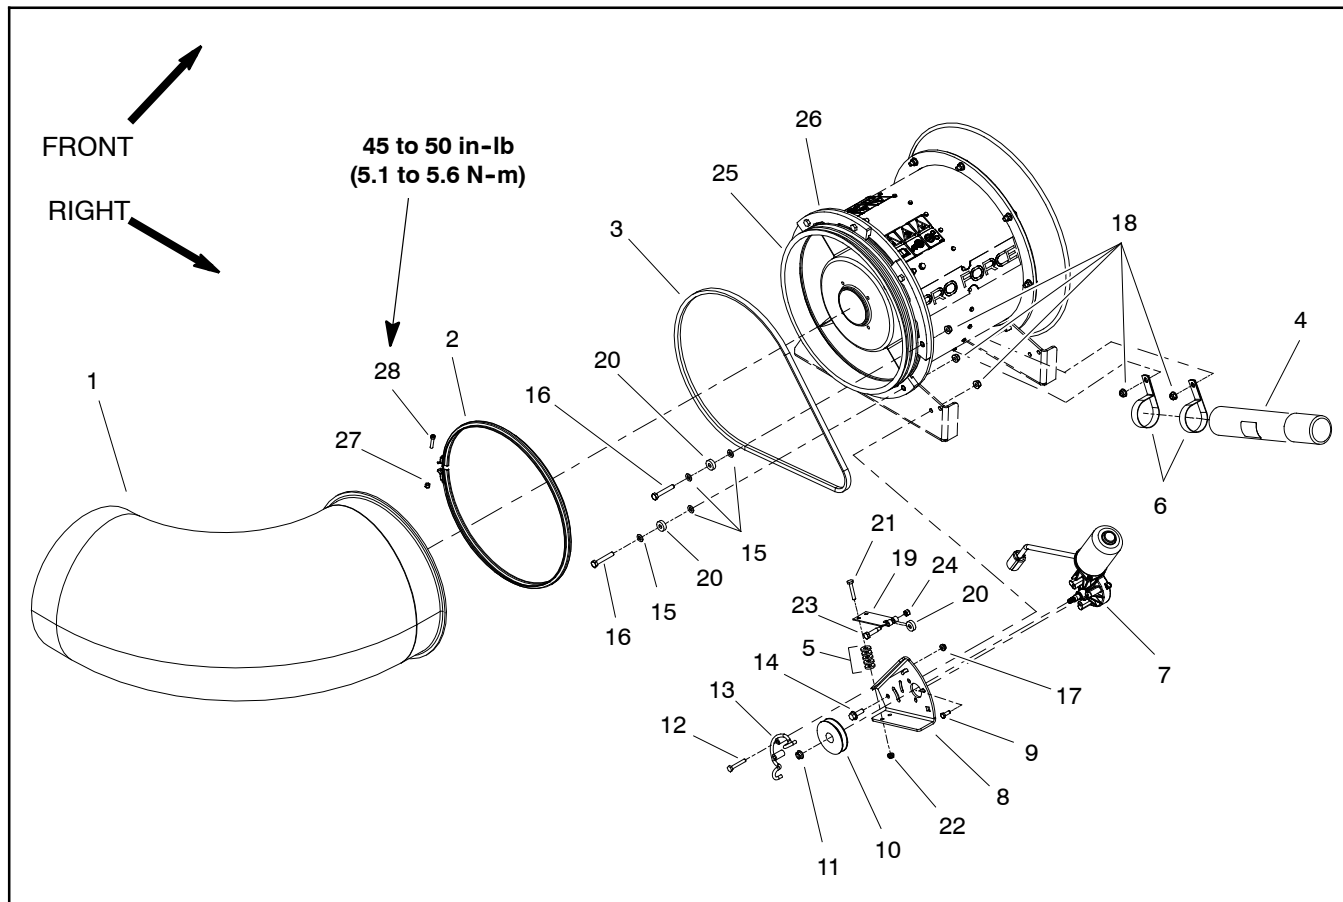
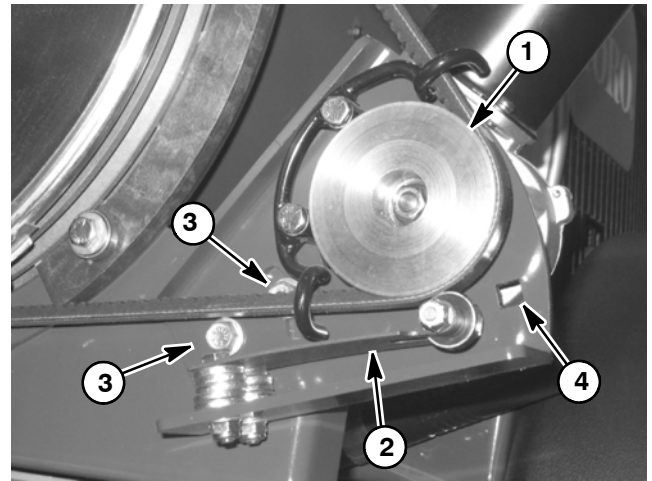

Figure 9
Figure 10
### Removal (Fig. 9)
6. Loosen two (2) flange head screws (item 14) and flange nuts that secure nozzle motor bracket to outer housing (Fig. 10). Rotate bracket and nozzle motor to loosen v-belt.
7. Loosen cap screws and flange nuts that secure belt guard (item 13), route v-belt from behind guard and carefully remove belt from machine.
8. If necessary, remove nozzle guides, pulley bearings and nozzle pulley from outer housing using Figures 9 and 12 as guides.
### Installation (Fig. 9)
1. If removed, install nozzle pulley, pulley bearings and nozzle guides using Figures 9 and 12 as guides.
2. Place v-belt in nozzle pulley, route behind belt guard (item 13) and install belt on motor pulley.
3. With a 3/8 in. drive torque wrench, pivot the motor bracket from **200 to 230 in-lb (23 to 25 N-m)** to set v-belt tension (Fig. 10). **Do not over tension belt.** Hold bracket with the torque wrench and tighten two (2) flange head screws and flange nuts to secure belt adjustment and nozzle motor bracket.